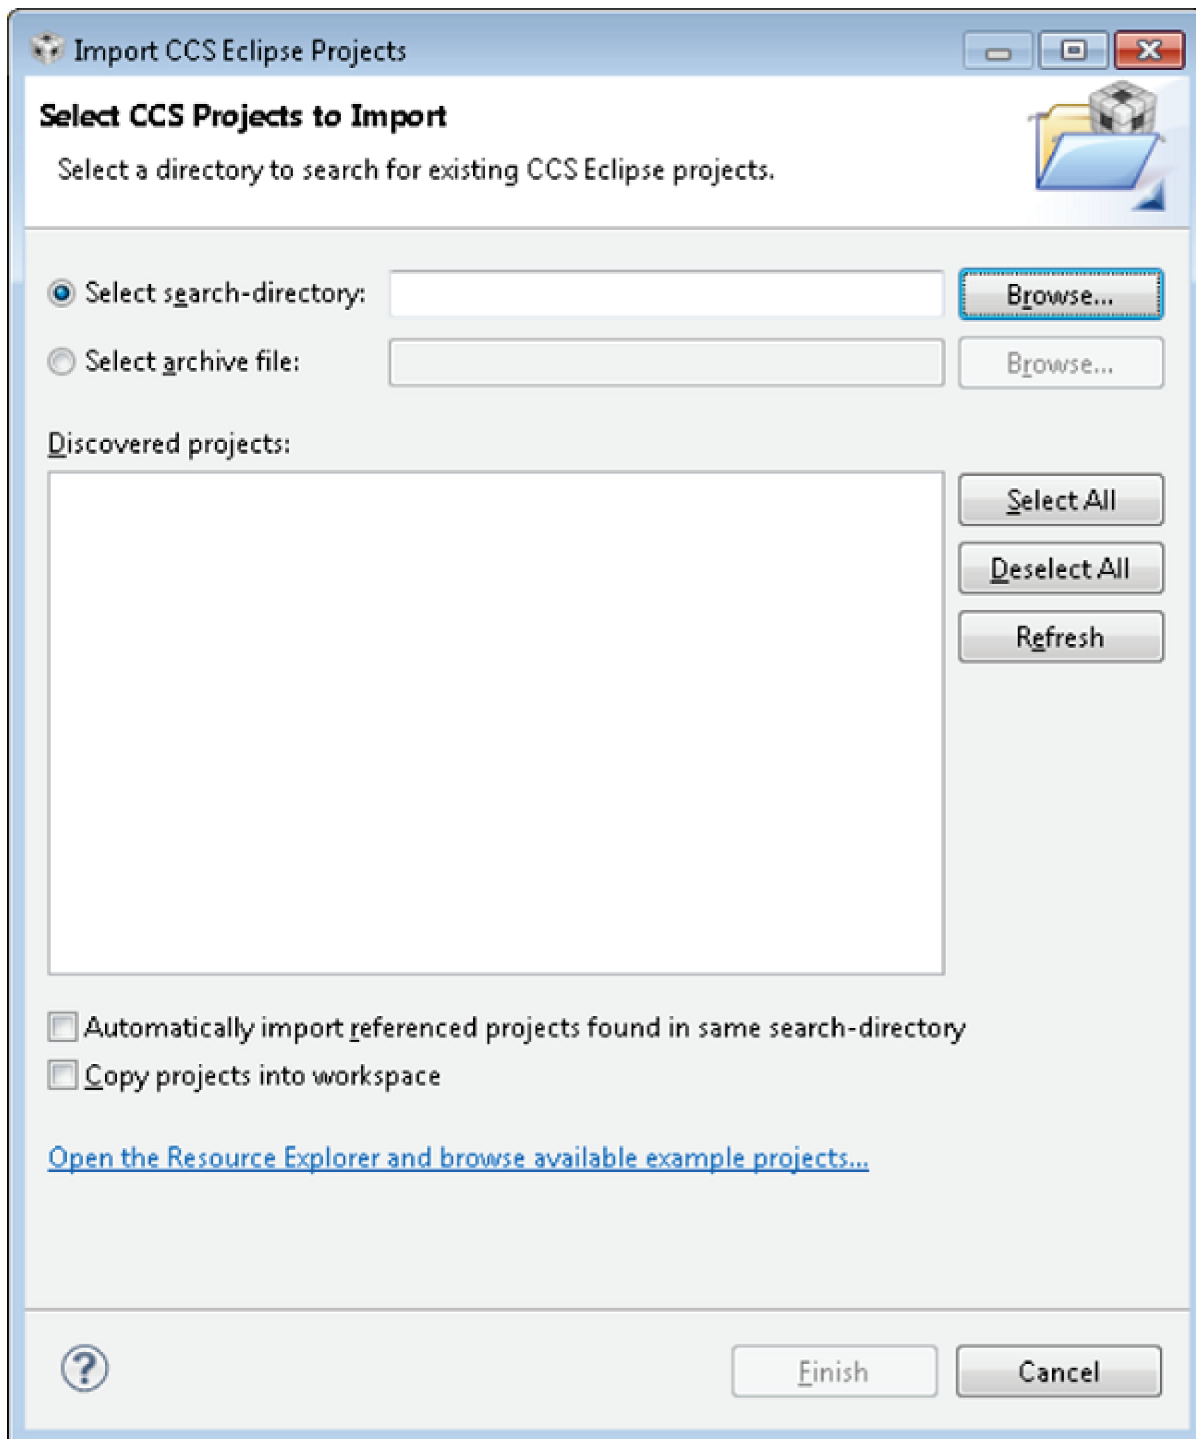

Figure 3-1. Select CCS Projects to Import
3. Select the Browse button in the Import CCS Eclipse Projects dialog, as shown in Figure 3-1, and select the directory `<sdk-installation-path>\examples\os\CC3220SF_LAUNCHXL\demos` (use relative path of CC3220S if needed).